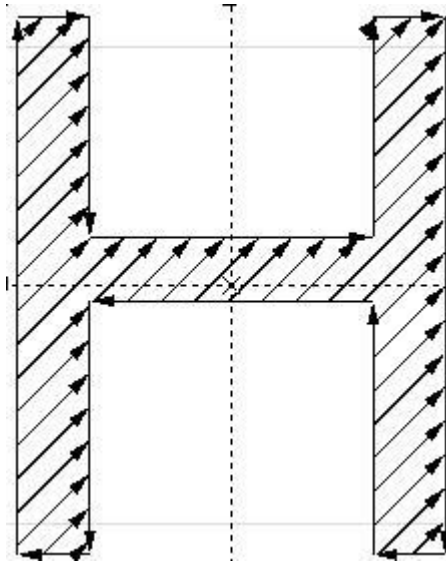

Fig. 3-10 Angle is 45
**Angle:** the angle between the hatch line and the X axis. As shown in Figure 3-10, it is a hatching graph when the hatching angle is 45 degrees.
**Angle:** Refers to the angle between the filling line and the X axis. As shown in Figure 3-10, it is a filling figure when the filling angle is 45 degrees.